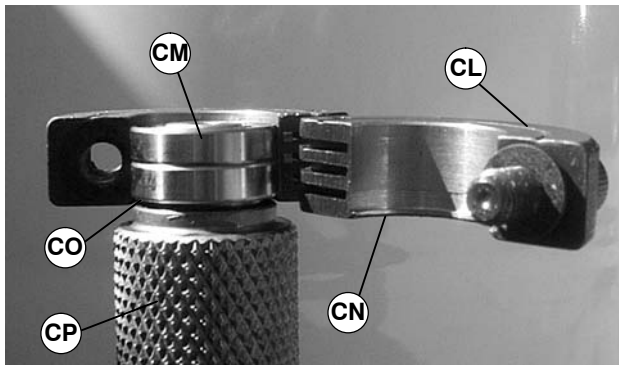

Figure 50
1. Place bearing removal tool (part # 450281) (CL of Figure 50) over bearing (CM) with lip (CN) located in gap (CO) between bearing and spindle (CP) as shown.